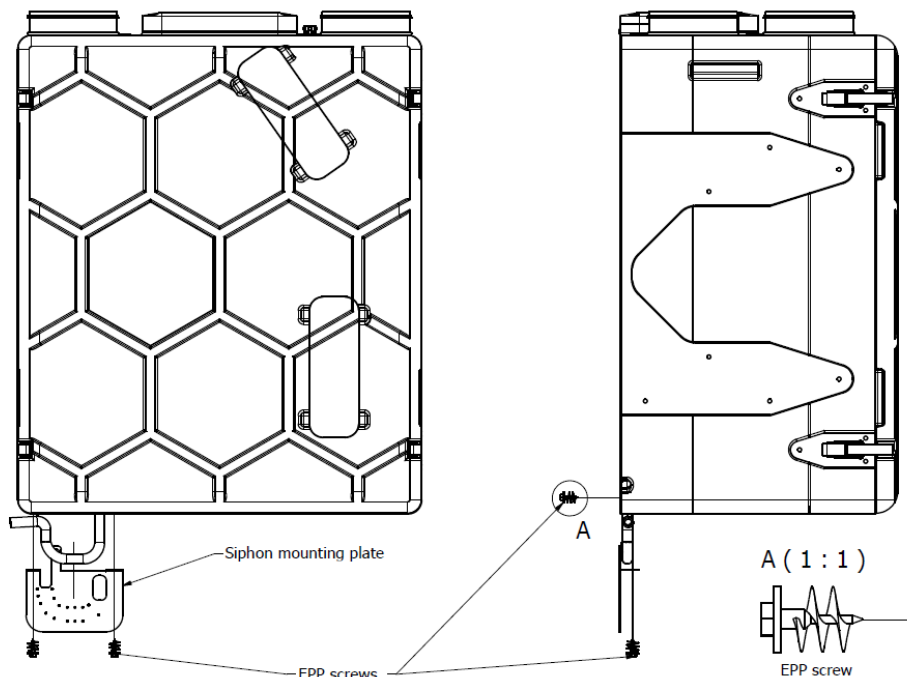

Figure 11 – siphon plate installation
- Mount siphon plate with 3 EPP screws (figure 11).